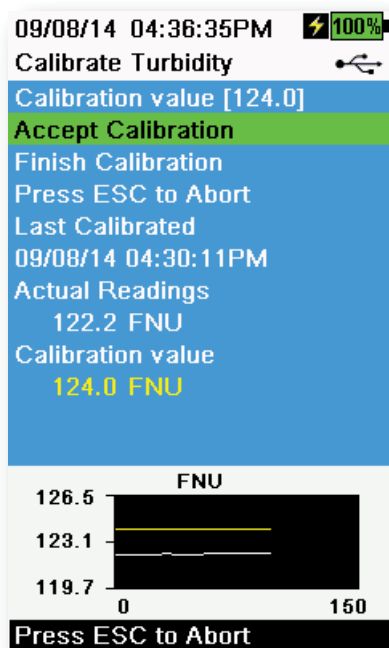

Figure 54 Calibrate turbidity
10. Observe the actual measurement readings for stability (white line on graph shows no significant change for 40 seconds), then select **Accept Calibration** (Figure 54). "Ready for cal point 3" will be displayed in the message area.